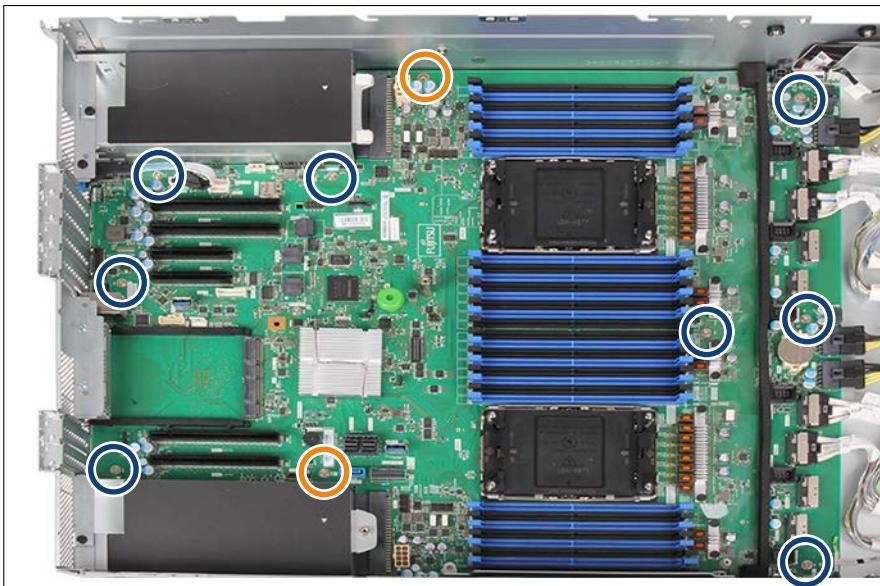

Figure 354: Position of the screws
- ▶ Adjust the system board. If necessary adjust the position of the system board with a gentle twisting motion (orange circles in Figure 354 show the centering bolts).
- ▶ Fasten the system board with ten screws, see Figure 354.
- ▶ Fasten the system board with the two specifical screws, see Figure 354.